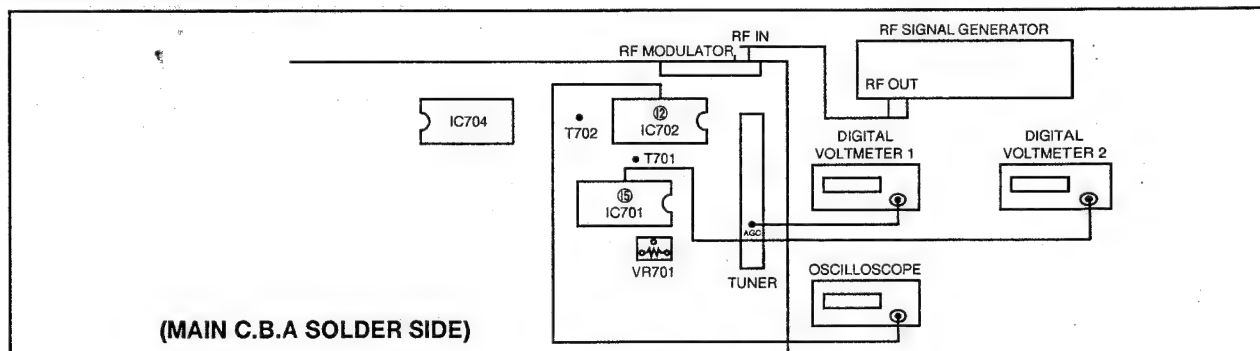

Fig. 3-1-2
- Connect as shown in Fig. 3-1-2.